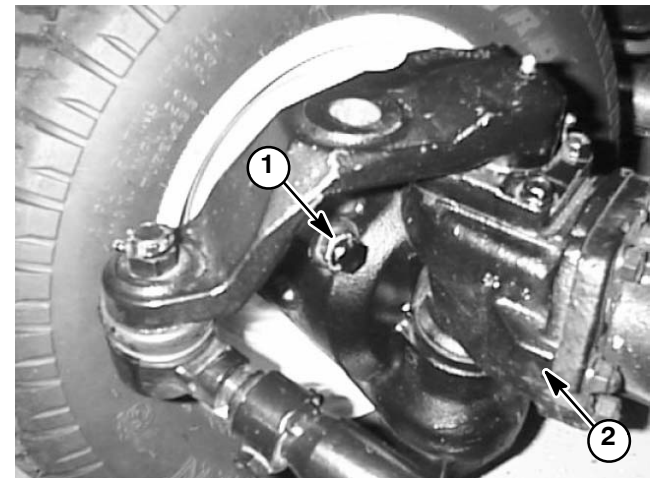

Figure 13
11. Check steering stop bolt adjustment. When the steering cylinder is fully contracted (left turn), a gap of 1/16” (1.6 mm) should exist between bevel gear case casting and stop bolt on left axle case. Figure 13 shows stop bolt location.